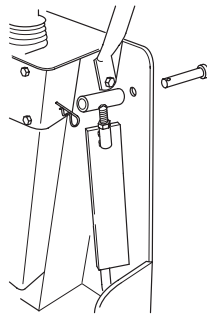

Figure 26
- B. Pin the side bars in the storage positions as illustrated in Figure 26.